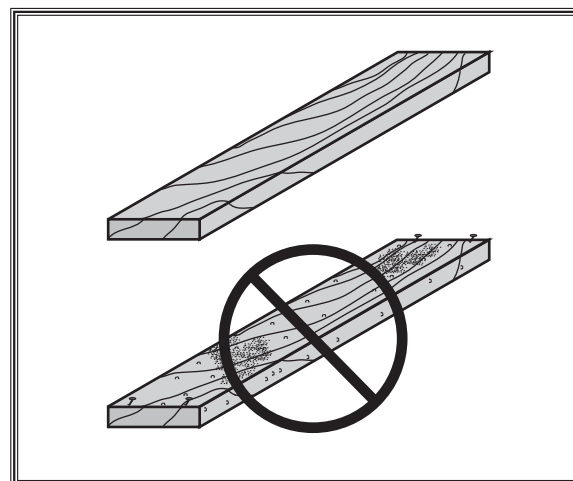

Figure 48. Choosing wood without foreign objects embedded.
- **Foreign Objects (Figure 48):** Nails, staples, dirt, rocks and other foreign objects are often embedded in wood. While cutting, these objects can become dislodged and hit the operator or break the blade, which might then fly apart. Always visually inspect your workpiece for these items. If they can't be removed, do NOT cut the workpiece.